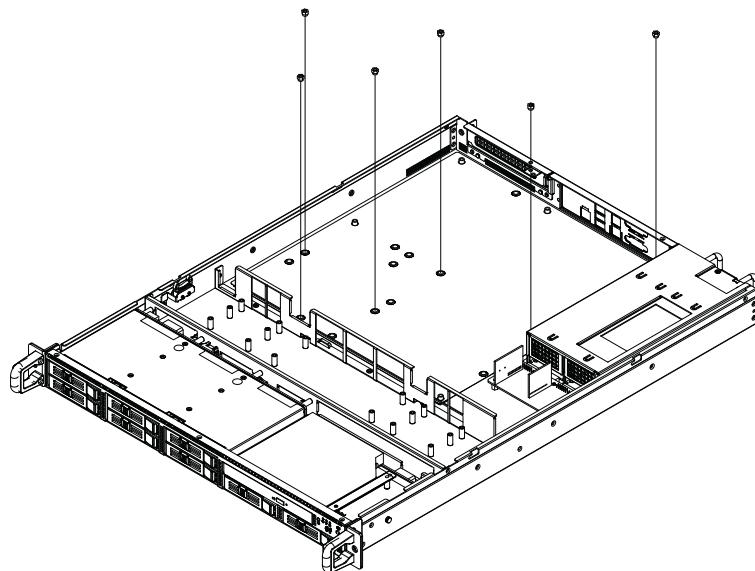

Figure 2.3 Fastening the Stub Copper/ 固定铜柱 / 固定銅柱
1. Figure 2.2 shows the stub copper location for attaching the specific EATX/ATX/MicroATX motherboard. Users can find the stub copper in the accessory box. Lock the stub copper into the correct location and then rotate counterclockwise to fasten it into the chassis (See Figure 2.3).
1. 图 2.2 标示了用于安装特定 EATX/ATX/MicroATX 主板的铜柱位置，用户可以于配件盒中找到铜柱。将铜柱锁入相应的位置，然后沿逆时针方向旋转将其固定在机箱上。（如图 2.3 所示）